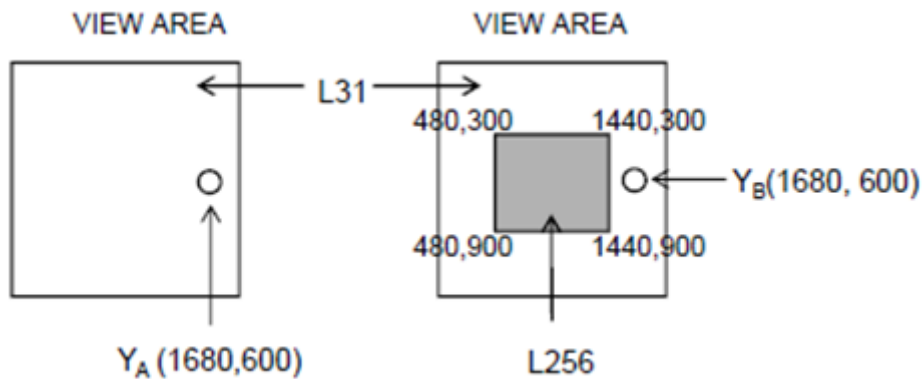

Figure 3. Cross Modulation Test Description
Cross-Talk of one area of the LCD surface by another shall be measured by comparing the luminance (YA) of a 25mm diameter area, with all display pixels set to a gray level, to the luminance(YB) of that same area when any adjacent area is driven dark (Refer to Figure 3).